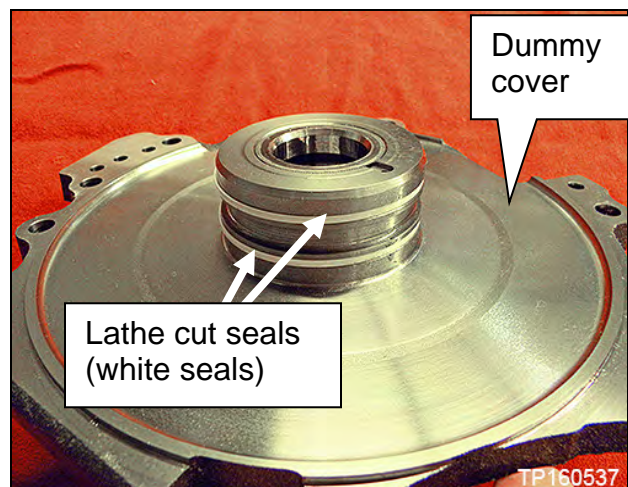

Figure 20C
- Do **NOT** remove the lathe cut seals (white seals in Figure 20C) from the dummy cover. These seals will be reused.